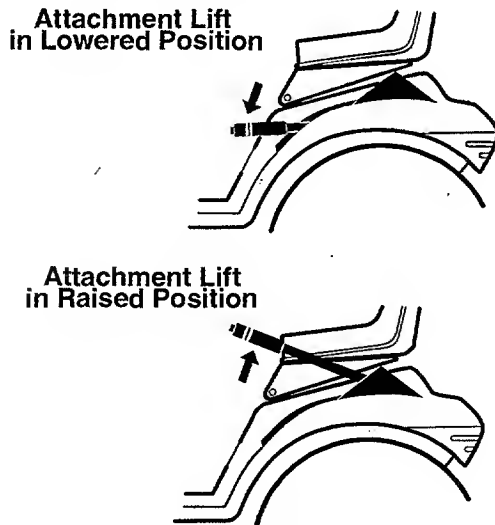

Figure 2
1. Park the tractor with the unit on a level surface. Use the tractor lift to raise the unit to the transport position. See figure 2.